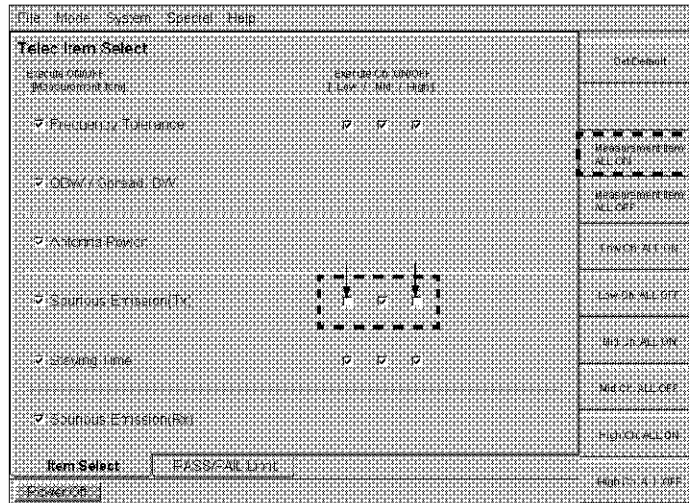

Figure 2-34 Telec Item Select Screen
4. Press **Measurement Item All ON** on the screen shown in Figure 2-34 so that all measurement items are executed. If the check boxes indicated by arrows in Figure 2-34 are checked to set all measurement items, only the Mid. Ch. is executed in the Spurious Emission (Tx) measurement, the checkmark is cleared and no measurements for Low Ch. and High Ch. is performed.